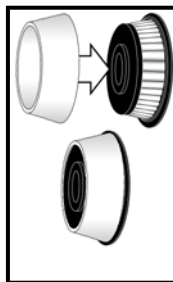

Fig. 14
1. Around the HEPA filter there is a filter ring. This is washable in lukewarm water. (Fig. 14) To remove the filter ring, slide it off the HEPA filter.